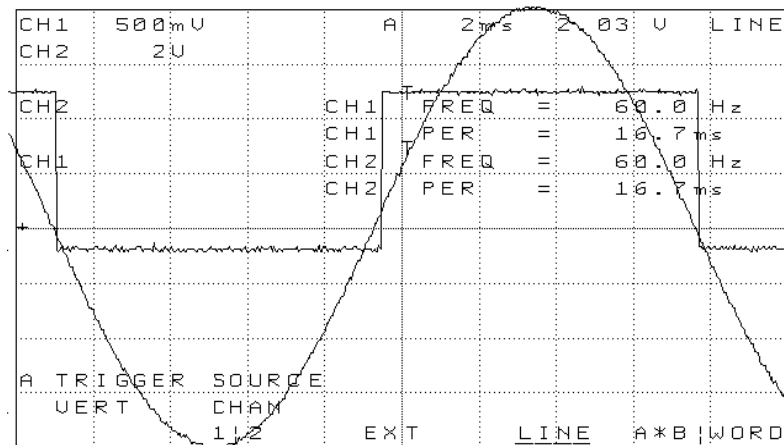

Figure 4.
- i. With 3 phase still connected apply power and observe TP12 with channel 1, TP13 with channel 2 and observe the waveforms in FIGURE 4. The square wave on TP13 should be from -0.6 VDC and +5.0VDC, this waveform will also be present on JA38.